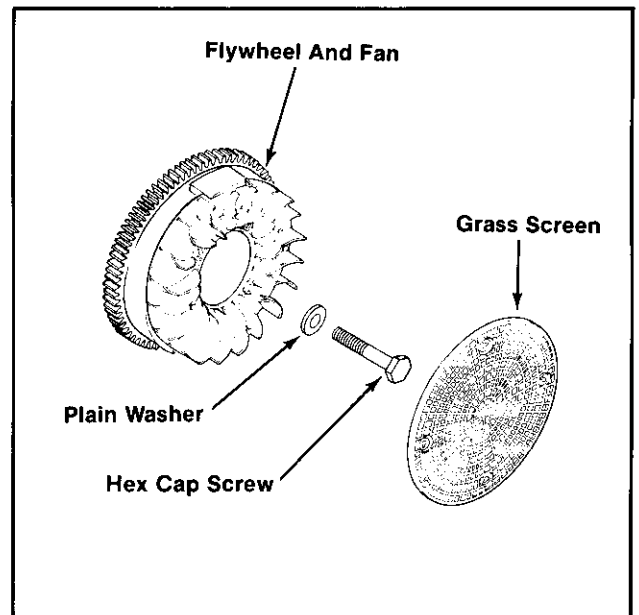

Figure 10B-22. Removing Grass Screen And Flywheel — Electric Start Models.
2. Hold the flywheel with a strap wrench and loosen hex cap screw securing flywheel to crankshaft (Refer to Figure 10B-19). Remove the hex cap screw and plain washer.